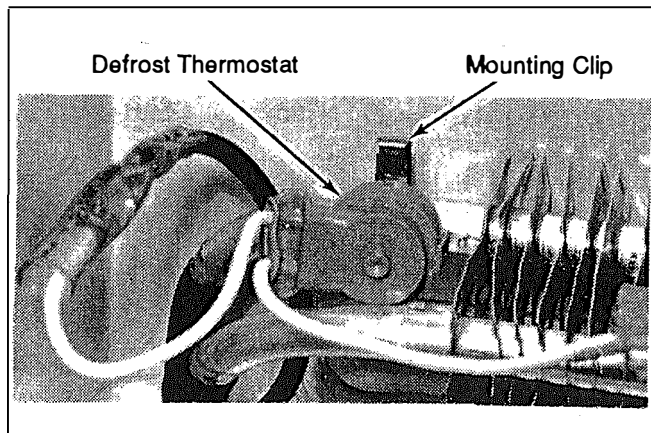

Figure C15 - Defrost Thermostat Location
6. With a small screwdriver, open the defrost thermostat mounting clip and remove the thermostat from the evaporator. See Figures C15 and C16.